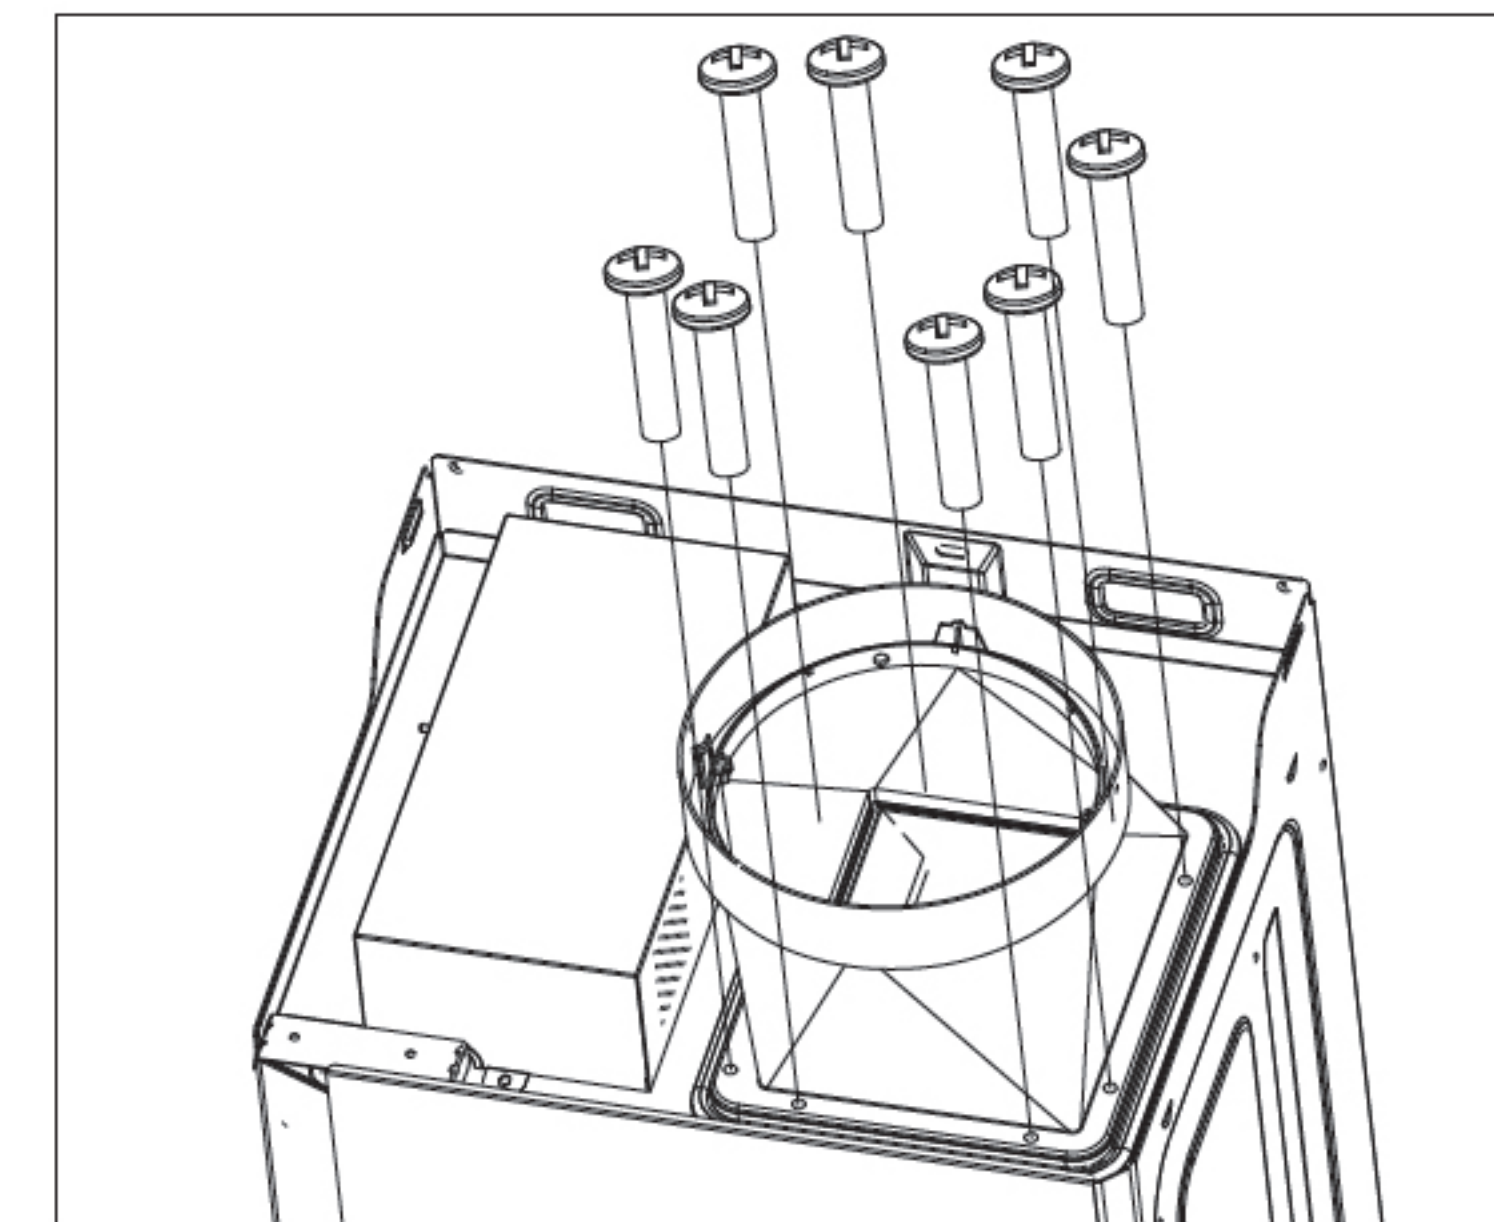

Fig.18
8. Fix the outlet housing and the sealing rings to the air outlet of the main body with 8 M4×18 screws (as shown in Fig. 18).